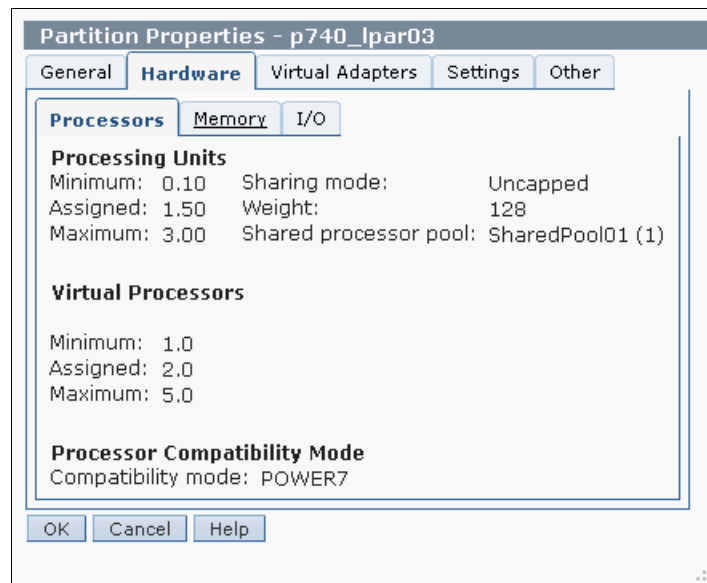

Figure 4-2 Checking the processor compatibility mode using the HMC
3. Click **Hardware**. You can then find the running mode in the Processors tab as shown in Figure 4-2.